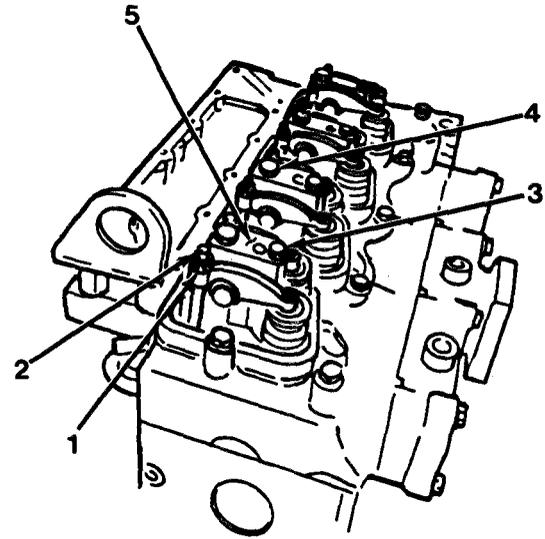

Figure 6-1
2. Install four rocker shaft support assemblies (5, Figure 6-1).
3. Lubricate with engine oil and install four capscrews (4) to cylinder head. Torque four capscrews (4) to 92 lb-ft (125 N•m).
4. Lubricate with engine oil and install four capscrews (3) to rocker shaft support assemblies (5). Torque four capscrews (3) to 18 lb-ft (24 N•m).